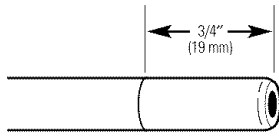

Fig. 8
1. Measure 3/4" from the end of each remaining piece of tubing (faucet end and inlet end) and mark with a pencil (Fig. 8). (Check for roundness, smoothness, cuts, nicks, flat spots and sharp edges).